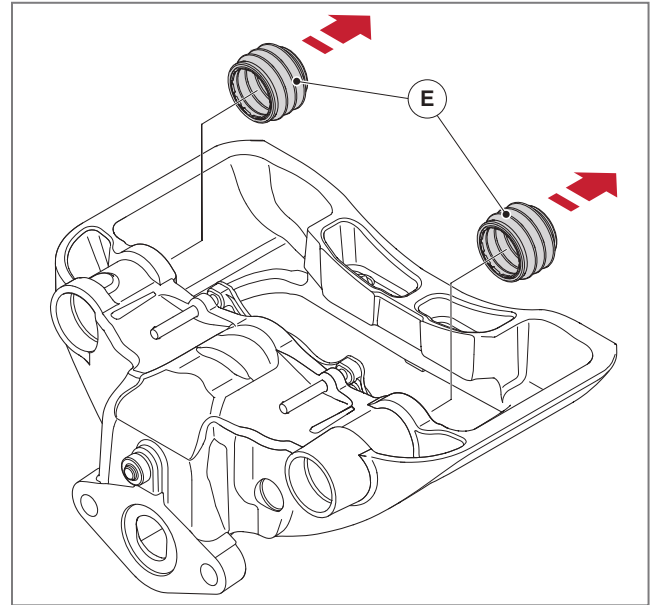

Fig. 60 - Removing the bellows and guide pins
6. Remove both guide pin bellows (E), see ► Fig. 60. If necessary, use a small screwdriver in order to lever them out. Be careful not to damage the guide pin bellows sealing surfaces if using a tool to lever out the bellows!